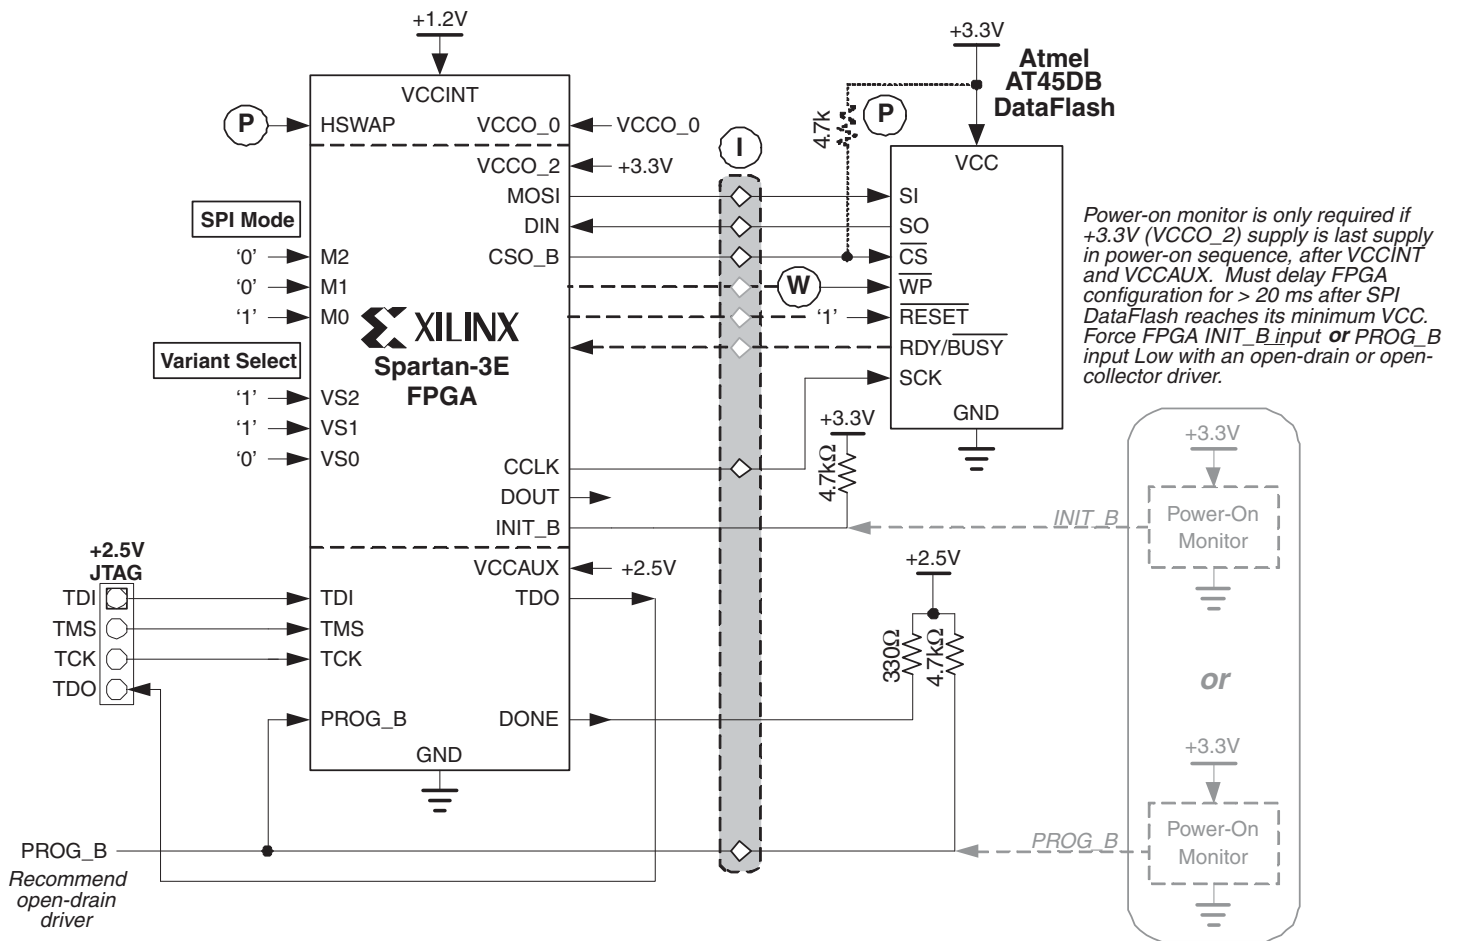

Figure 51: Atmel SPI-based DataFlash Configuration Interface
Figure 51 shows the connection diagram for Atmel DataFlash serial PROMs, which also use an SPI-based protocol.
If the 3.3V supply is last in the sequence and does not ramp fast enough, or if the SPI Flash PROM cannot be ready when required by the FPGA, delay the FPGA configuration process by holding either the FPGA's PROG_B input or INIT_B input Low, as highlighted in Figure 51. Release the FPGA when the SPI Flash PROM is ready. For example, a simple R-C delay circuit attached to the INIT_B pin forces the FPGA to wait for a preselected amount of time. Alternately, a Power Good signal from the 3.3V supply or a system reset signal accomplishes the same purpose. Use an open-drain or open-collector output when driving PROG_B or INIT_B.
① In a production application, the SPI Flash PROM is usually pre-programmed before it is mounted on the printed circuit board. In-system programming support is available from some third-party PROM programmers using a socket adapter with attached wires. To gain access to the SPI Flash signals, drive the FPGA's PROG_B input Low with an open-drain driver. This action places all FPGA I/O pins, including those attached to the SPI Flash, in high-impedance (Hi-Z). If the HSWAP input is High, the I/Os have pull-up resistors to the V_{CCO} input on their respective I/O bank. The external programming hardware then has direct access to the SPI Flash pins. The programming access points are highlighted in the gray box in Figure 50, Figure 51, and Figure 54.